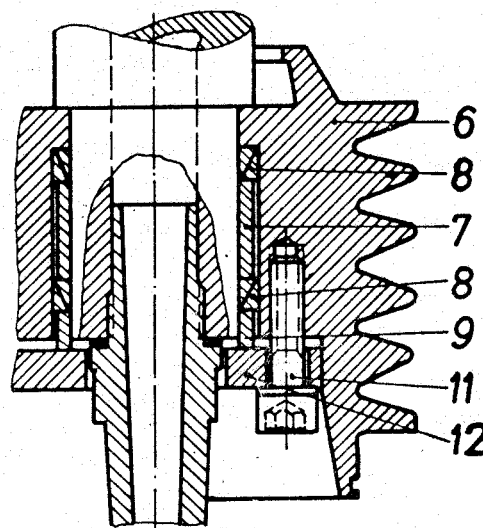

Fig. 8
- 5) Be sure to mount conical clamp rings 8 (fig. 8) properly. The inner ring of each set of conical clamp rings must be mounted first. Then fit the outer ring into the V-belt pulley (fig. 8). Slip V-belt pulley 6 (fig. 8) on the spindle and slide it on until it rests against the shoulder of the spindle. Clamp pulley to spindle by tightening clamp disc 12 with screws 11 evenly and firmly, giving each screw single consecutive turns.